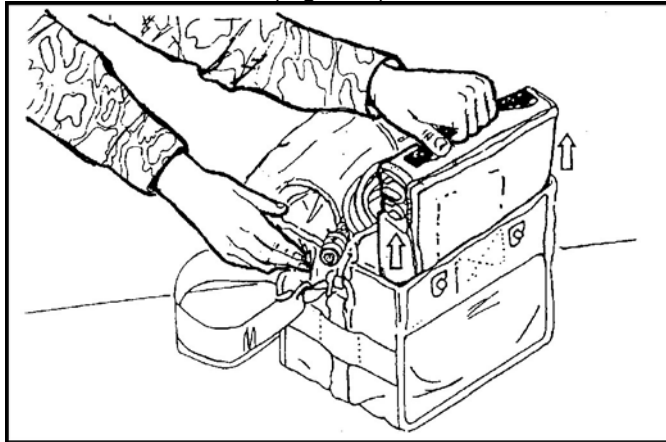

Figure 1. Removal of MBC.
- a. Remove the MBC from its field case (Figure 1).